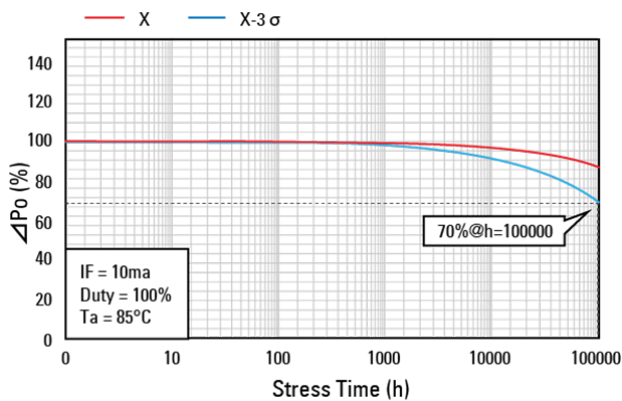

Fig. 4.4.1 Examples of estimated aging data
α1: LED degradation rate (coefficient)	Set α1 from the average (X)-3σ curve (e.g. Fig. 4.4.1). The higher the ambient temperature and/or I _F value, the degradation rate is greater. Note: As degradation rate is varied by using LED types, please contact us for more information.